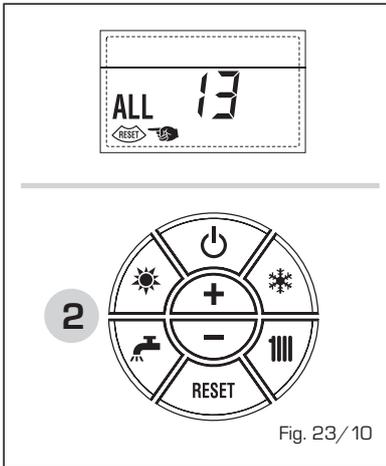

Fig. 23/10
**- ANOMALÍA SONDA HUMOS "ALL 14" (fig. 23/11)**